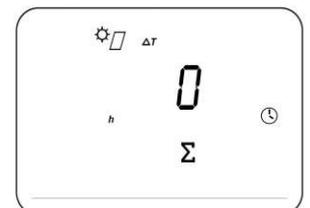

Fig. 27
j. This Screen (Fig. 27) will display total hours of stagnation accumulated since the commissioning date (if is a new install it will display 0). Press  to accept.